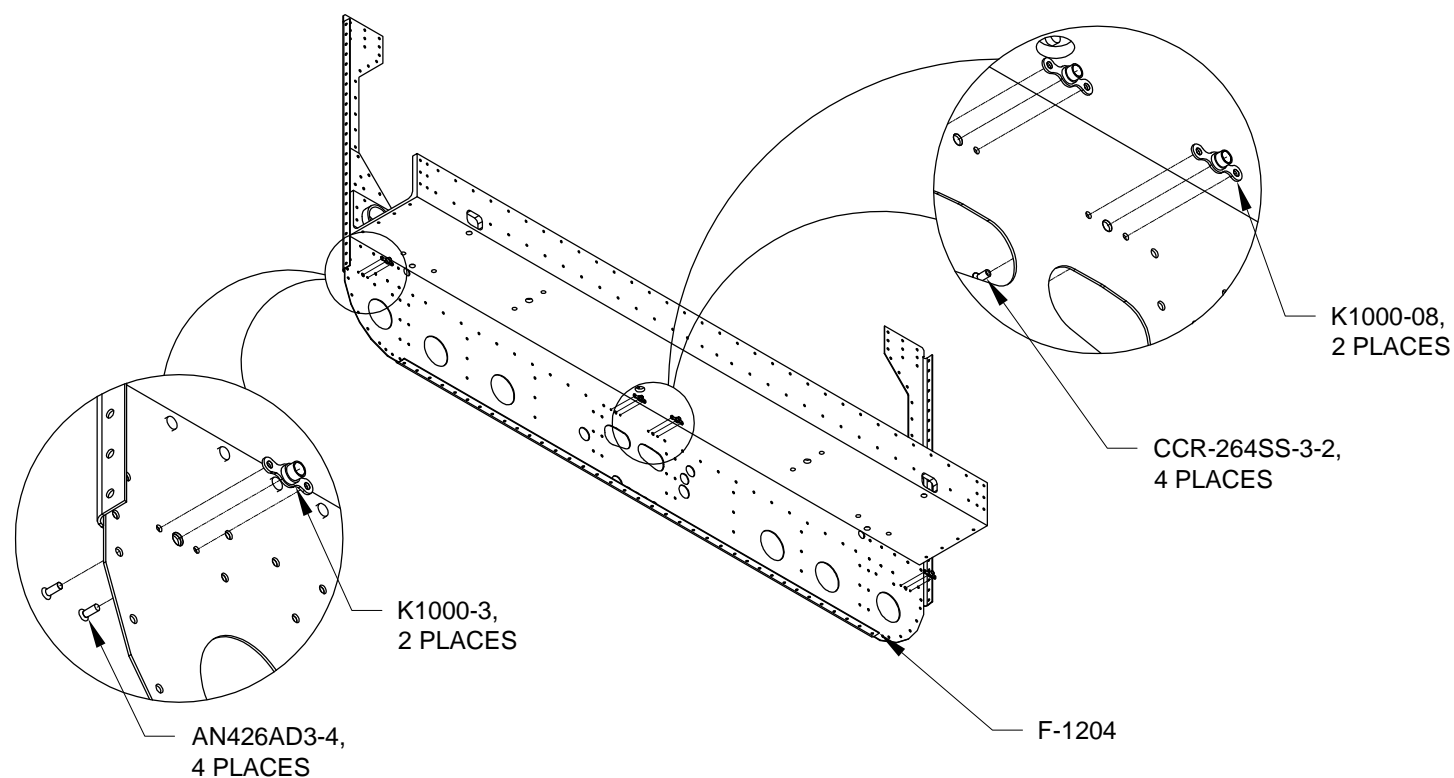

FIGURE 1: INSTALLING THE NUTPLATES
Step 1: Machine countersink 100° the nutplate rivet holes on the F-1204 Center Section Assembly to fit the the head of AN426AD3 rivet as shown in Figure 1. Machine countersink 100° the nutplate rivet holes in the center section assembly to fit the head of CCR-264SS-3-2 rivet as shown in Figure 1. Install nutplates on the center section assembly as shown in Figure 1.